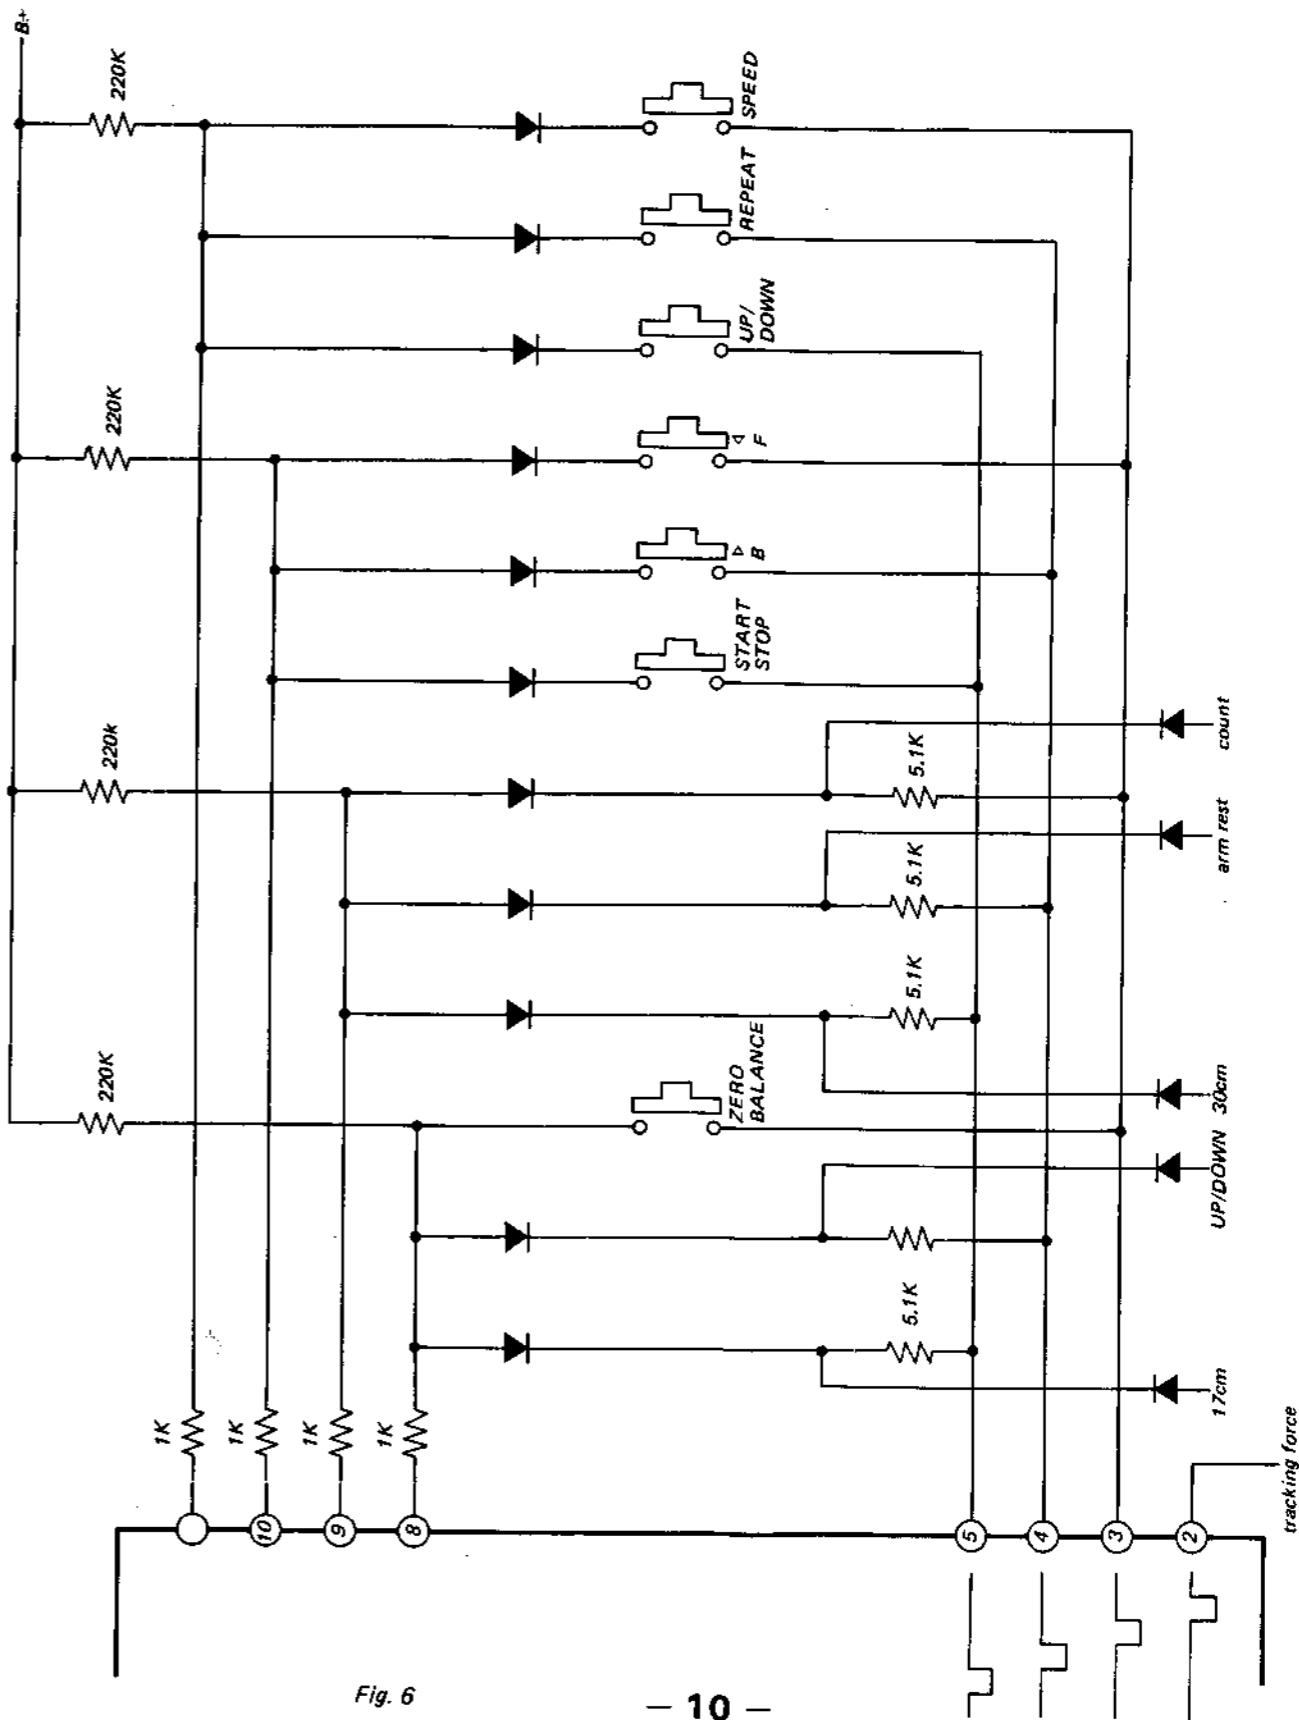

Fig. 6
Figure 6 si
Figure 6 shows part of the key input circuit. ② – ⑤ are key input detection signal output pins, and ⑧ – ⑪ are input pins. When pins ② – ⑤ are made low in order, the microcomputer program controls the state depending on the state of pins ⑧ – ⑪.